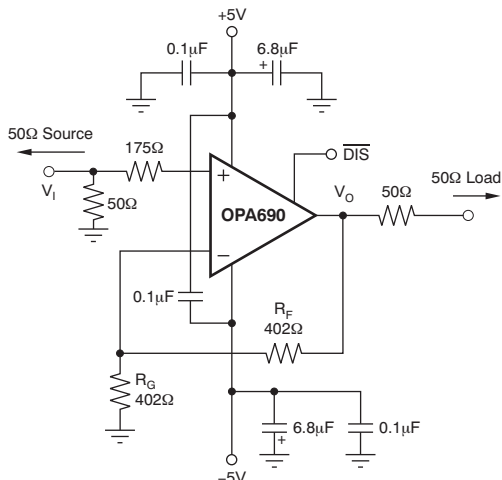
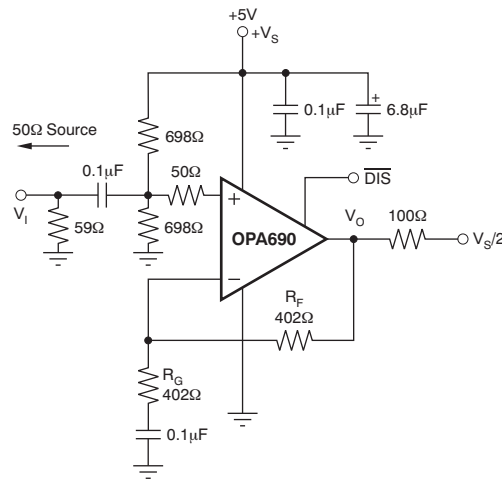
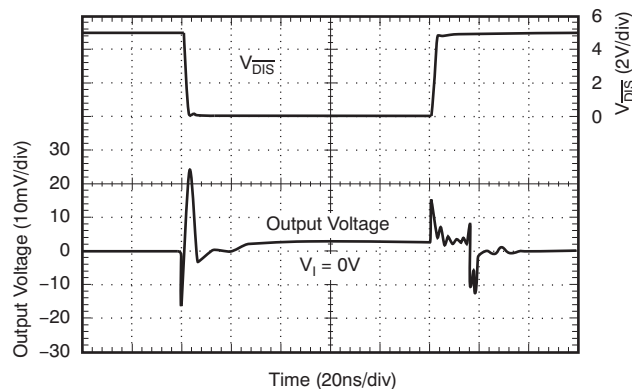

Figure 36. DC-Coupled, G = 2, Bipolar-Supply Specification and Test Circuit
Figure 37. AC-Coupled, G = 2, Single-Supply Specification and Test Circuit
Figure 44. Disable or Enable Glitch
$T_A = 25^\circ\text{C}$, $G = 2$, $R_F = 402\ \Omega$, and $R_L = 100\ \Omega$; see Figure 36 for AC performance only (unless otherwise noted)
$T_A = 25^\circ\text{C}$, $G = 2$, $R_F = 402\ \Omega$, and $R_L = 100\ \Omega$; see Figure 37 for AC performance only (unless otherwise noted)
Figure 36 shows the DC-coupled, gain of 2, dual power supply circuit configuration used as the basis of the ± 5 V and *Typical Characteristics: $V_S = \pm 5$ V*. For test purposes, the input impedance is set to 50 Ω with a resistor to ground and the output impedance is set to 50 Ω with a series output resistor. Voltage swings reported in the specifications are taken directly at the input and output pins, while output powers (dBm) are at the matched 50- Ω load. For the circuit of Figure 36, the total effective load is 100 $\Omega \parallel 804 \Omega$. The disable control line is typically left open to ensure normal amplifier operation. Two optional components are included in Figure 36. An additional resistor (175 Ω) is included in series with the noninverting input. Combined with the 25- Ω DC source resistance looking back towards the signal generator, this gives an input bias current cancelling resistance that matches the 200- Ω source resistance seen at the inverting input (see *DC Accuracy and Offset Control*). In addition to the usual power-supply decoupling capacitors to ground, a 0.1- μ F capacitor is included between the two power-supply pins. In practical printed-circuit board (PCB) layouts, this optional-added capacitor typically improves the 2nd-harmonic distortion performance by 3 dB to 6 dB.
Figure 37 shows the AC-coupled, gain of 2, single-supply circuit configuration which is the basis of the 5 V and *Typical Characteristics: 5 V*. Though not a rail-to-rail design, the OPA690 requires minimal input and output voltage headroom compared to other very wideband voltage-feedback op amps. It delivers a 3-V_{PP} output swing on a single 5-V supply with > 150-MHz bandwidth. The key requirement of broadband single-supply operation is to maintain input and output signal swings within the useable voltage ranges at both the input and the output. The circuit of Figure 37 establishes an input midpoint bias using a simple resistive divider from the 5-V supply (two 698-Ω resistors). The input signal is then AC-coupled into the midpoint voltage bias. The input voltage can swing to within 1.5 V of either supply pin, giving a 2-V_{PP} input signal range centered between the supply pins. The input impedance matching resistor (59 Ω) used for testing is adjusted to give a 50-Ω input load when the parallel combination of the biasing divider network is included.
Voltage-feedback op amps exhibit decreasing closed-loop bandwidth as the signal gain is increased. In theory, this relationship is described by the gain bandwidth product (GBP) shown in the *Electrical Characteristics: V_S = ±5 V*. Ideally, dividing GBP by the noninverting signal gain (also called the Noise Gain, or NG) predicts the closed-loop bandwidth. In practice, this only holds true when the phase margin approaches 90°, as it does in high gain configurations. At low gains (increased feedback factors), most amplifiers exhibit a more complex response with lower phase margin. The OPA690 is compensated to give a slightly peaked response in a noninverting gain of 2 (see Figure 36). This results in a typical gain of 2 bandwidth of 220 MHz, far exceeding that predicted by dividing the 300 MHz GBP by 2. Increasing the gain causes the phase margin to approach 90° and the bandwidth to more closely approach the predicted value of (GBP/NG). At a gain of 10, the 30-MHz bandwidth shown in *Electrical Characteristics: V_S = ±5 V* agrees with that predicted using the simple formula and the typical GBP of 300 MHz.
The frequency response in a gain of 2 may be modified to achieve exceptional flatness simply by increasing the noise gain to 2.5. One way to do this, without affecting the 2 signal gain, is to add an 804- Ω resistor across the two inputs in the circuit of Figure 36. A similar technique may be used to reduce peaking in unity-gain (voltage follower) applications. For example, by using a 402- Ω feedback resistor along with a 402- Ω resistor across the two op amp inputs, the voltage follower response is similar to the gain of 2 response of Figure 37. Reducing the value of the resistor across the op amp inputs further limits the frequency response due to increased noise gain.
Because the OPA690 is a general-purpose, wideband voltage-feedback op amp, all of the familiar op amp application circuits are available to the designer. Inverting operation is one of the more common requirements and offers several performance benefits. Figure 38 shows a typical inverting configuration where the I/O impedances and signal gain from Figure 36 are retained in an inverting circuit configuration.
The second major consideration, touched on in the previous paragraph, is that the signal source impedance becomes part of the noise gain equation and influences the bandwidth. For the example in Figure 38, the R_M value combines in parallel with the external 50- Ω source impedance, yielding an effective driving impedance of $50\ \Omega \parallel 67\ \Omega = 28.6\ \Omega$. This impedance is added in series with R_G for calculating the noise gain (NG). The resultant NG is 2.8 for Figure 38, as opposed to only 2 if R_M could be eliminated as discussed above. Therefore, the bandwidth is slightly lower for the gain of ± 2 circuit of Figure 38 than for the gain of 2 circuit of Figure 36.
The OPA690 provides good distortion performance into a 100-Ω load on ±5-V supplies. Relative to alternative solutions, it provides exceptional performance into lighter loads and/or operating on a single 5-V supply. Generally, until the fundamental signal reaches very high frequency or power levels, the 2nd-harmonic dominates the distortion with a negligible 3rd-harmonic component. Focusing then on the 2nd-harmonic, increasing the load impedance improves distortion directly. Remember that the total load includes the feedback network; in the noninverting configuration (see Figure 36), this is sum of $R_F + R_G$, while in the inverting configuration it is just R_F . Also, providing an additional supply-decoupling capacitor (0.1 μF) between the supply pins (for bipolar operation) improves the 2nd-order distortion slightly (3 dB to 6 dB).
Evaluating these two equations for the OPA690 circuit and component values (see Figure 36) gives a total output spot noise voltage of 12.3 nV/√Hz and a total equivalent input spot noise voltage of 6.1 nV/√Hz. This is including the noise added by the bias current cancellation resistor (175 Ω) on the noninverting input. This total input-referred spot noise voltage is only slightly higher than the 5.5-nV/√Hz specification for the op amp voltage noise alone. This is the case as long as the impedances appearing at each op amp input are limited to the previously recommend maximum value of 300 Ω. Keeping both (R_F || R_G) and the noninverting input source impedance less than 300 Ω satisfies both noise and frequency response flatness considerations. Because the resistor-induced noise is relatively negligible, additional capacitive decoupling across the bias current cancellation resistor (R_B) for the inverting op amp configuration of Figure 38 is not required.
The balanced input stage of a wideband voltage-feedback op amp allows good output DC accuracy in a wide variety of applications. The power-supply current trim for the OPA690 gives even tighter control than comparable amplifiers. Although the high-speed input stage does require relatively high input bias current (typically ±8 μA at each input terminal), the close matching between them may be used to reduce the output DC error caused by this current. The total output offset voltage may be considerably reduced by matching the DC source resistances appearing at the two inputs. This reduces the output dc error due to the input bias currents to the offset current times the feedback resistor. Evaluating the configuration of Figure 36, and using worst-case 25°C input offset voltage and current specifications, gives a worst-case output offset voltage equal to:
One key parameter in disable operation is the output glitch when switching in and out of the disabled mode. Figure 44 shows these glitches for the circuit of Figure 36 with the input signal at 0 V. The glitch waveform at the output pin is plotted along with the $\overline{DIS}$ pin voltage.
The transition edge rate (dV/dt) of the $\overline{DIS}$ control line influences this glitch. For the plot of Figure 44, the edge rate was reduced until no further reduction in glitch amplitude was observed. This approximately 1-V/ns maximum slew rate may be achieved by adding a simple RC filter into the $\overline{DIS}$ pin from a higher speed logic line. If extremely fast transition logic is used, a 1-k Ω series resistor between the logic gate and the $\overline{DIS}$ input pin provides adequate bandlimiting using just the parasitic input capacitance on the $\overline{DIS}$ pin while still ensuring adequate logic level swing.
A good rule of thumb is to target the parallel combination of R_F and R_G (see Figure 36) to be less than approximately 300 Ω. The combined impedance $R_F \parallel R_G$ interacts with the inverting input capacitance, placing an additional pole in the feedback network and thus, a zero in the forward response. Assuming a 2-pF total parasitic on the inverting node, holding $R_F \parallel R_G < 300$ Ω keeps this pole above 250 MHz. By itself, this constraint implies that the feedback resistor R_F can increase to several kΩ at high gains. This is acceptable as long as the pole formed by R_F and any parasitic capacitance appearing in parallel is kept out of the frequency range of interest.
As a worst-case example, compute the maximum T_J using an OPA690-DBV (6-pin SOT-23 package) in the circuit of Figure 36 operating at the maximum specified ambient temperature of 85°C and driving a grounded 20-Ω load.
The *Single-Supply ADC Driver* shows one possible (inverting) interface. Figure 45 shows the test circuit of Figure 37 modified for a capacitive (ADC) load and with an optional output pulldown resistor (R_B).